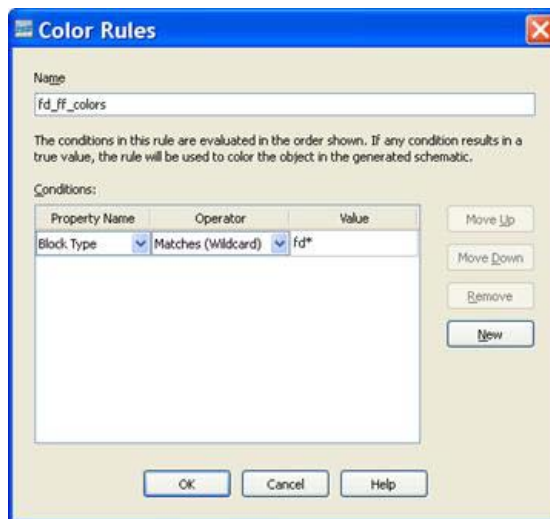

Figure 7-9: Color Rules Dialog Box
- Select **Block Type** for Property Name, then select **Matches (Wildcard)** as **Operator**, and finally type **fd*** as a value as shown in Figure 7-9, and press **OK**.